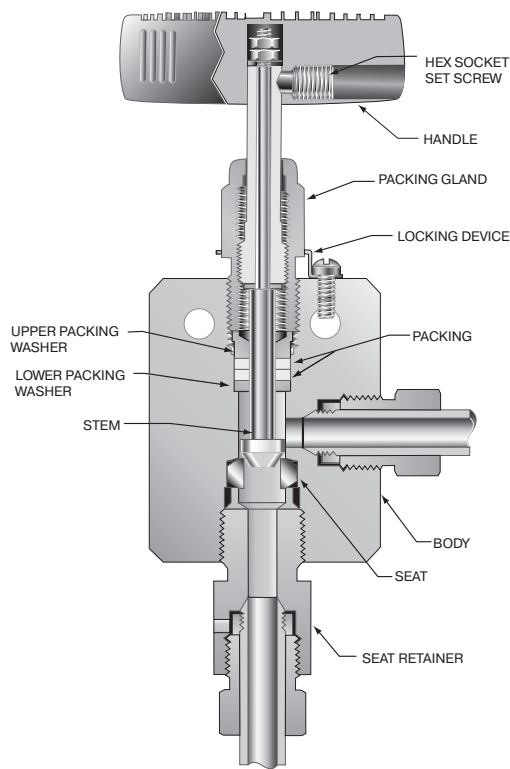

Figure 3:
4. While holding the valve body (or housing for HT and LT valves) secure, unthread and remove the packing gland. The packing will stay on stems that have a larger stem tip below the packing (Figure.3).
Section 4.0 Seat Replacement (Fig.3)